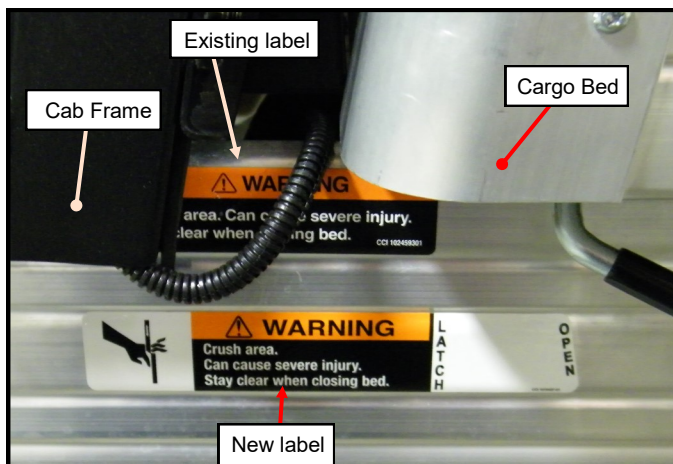

Figure 8.1: Tilt Bed Warning Label
- 8.1 Apply the Tilt Bed Warning Label on the driver's side of the Carryall, near the front of the Cargo Bed and below the cab frame as shown (**Figure 8.1**).